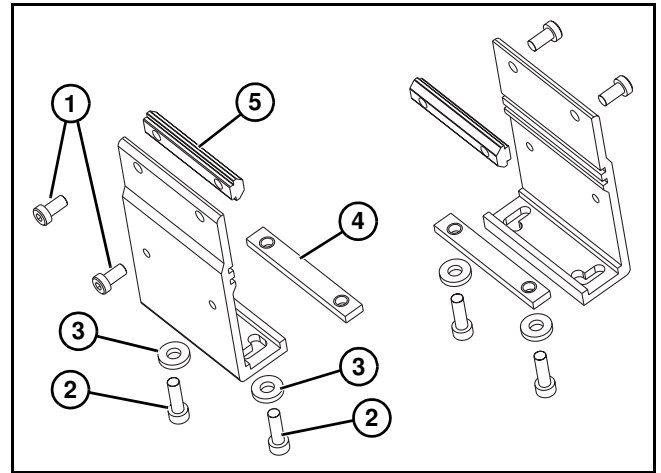
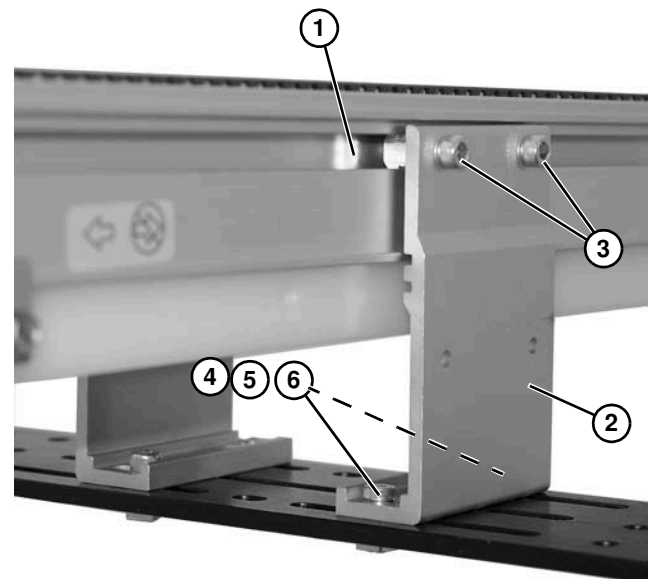

Figure 7
Figure 8
1. Locate brackets. Exploded view shown in **Figure 7**.
2. Remove screws (**Figure 7, item 1 & 2**), washers (**Figure 7, item 3**), connector bars (**Figure 7, item 4**) and T-bars (**Figure 7, item 5**) from brackets.
3. Insert T-bars (**Figure 7, item 5**) into conveyor side slots (**Figure 8, item 1**). Fasten brackets (**Figure 8, item 2**) to conveyor with mounting screws (**Figure 8, item 3**).
4. Fasten brackets to support stand with mounting screws (**Figure 8, item 4**), washers (**Figure 8, item 5**) and nuts (**Figure 8, item 6**).
5. Tighten screws (**Figure 8, item 3 & 4**) to 7 Nm.